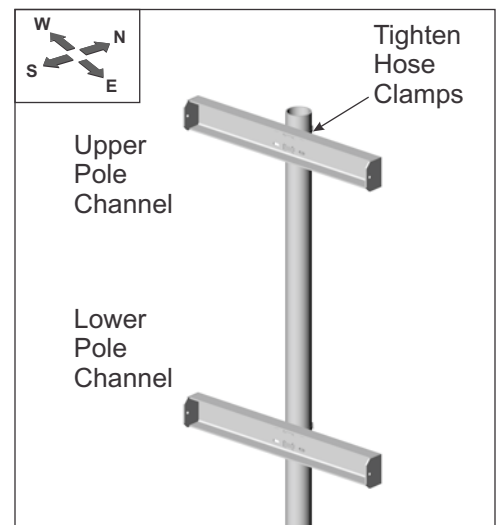

Figure 1-6: Installing Upper Pole Channel
- F. Rotate the Pole Channel so it is facing south. (See Figure 1-6)